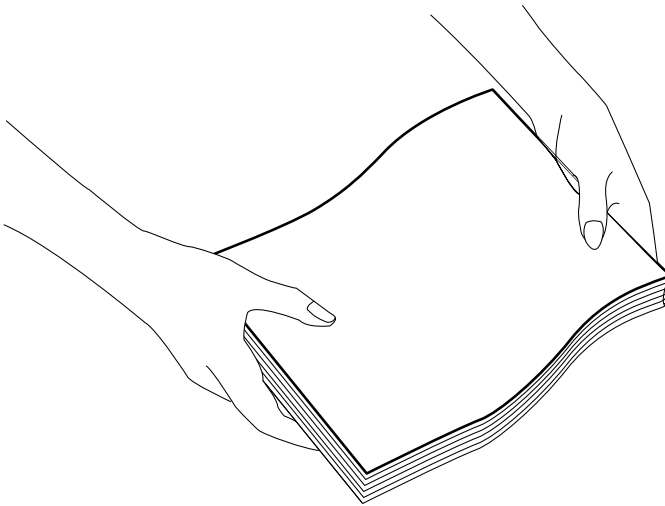

Fig. 2.31 *Fan the Paper*
4. Fan the paper (fig. 2.31) to prevent the sheets from sticking together. Align the edges of the stack on a flat surface.